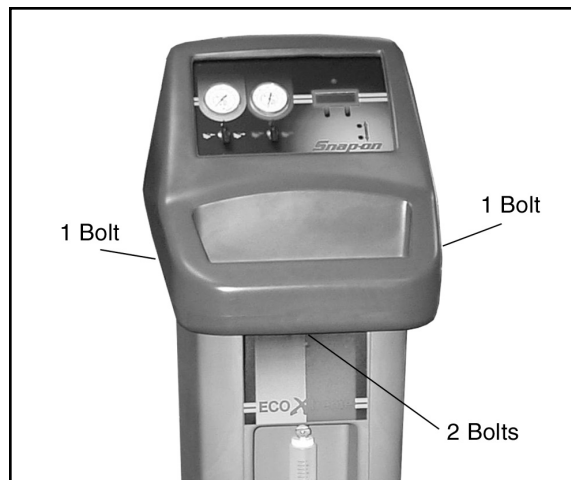

Figure 3-2: Top Cover Bolt Locations
4. Remove the four (4) bolts holding the plastic top cover, refer to *fig 3-2* for bolt locations.
2. Remove plastic top cover (refer to *fig 3-2*), and vacuum pump hold down bracket.